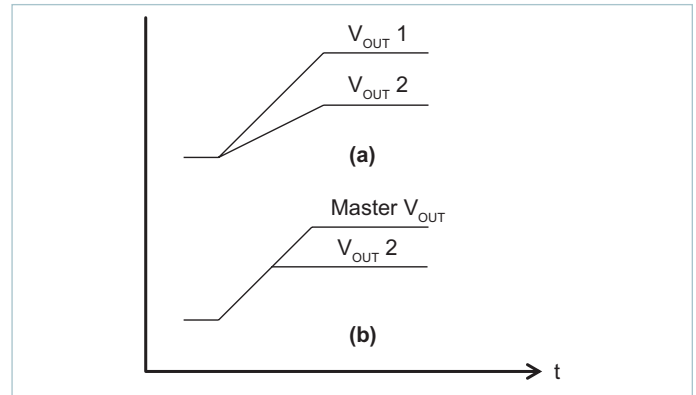

Figure 61 — PI33xx-x0 tracking methods
There is typically either proportional or direct tracking implemented within a design. For proportional tracking between several regulators at startup, simply connect all devices TRK pins together. This type of tracking will force all connected regulators to startup and reach regulation at the same time (see Figure 61(a)).
All connected regulators’ soft-start slopes will track with this method. Direct tracking timing is demonstrated in Figure 61(b). All tracking regulators should have their Enable (EN) pins connected together to work properly.